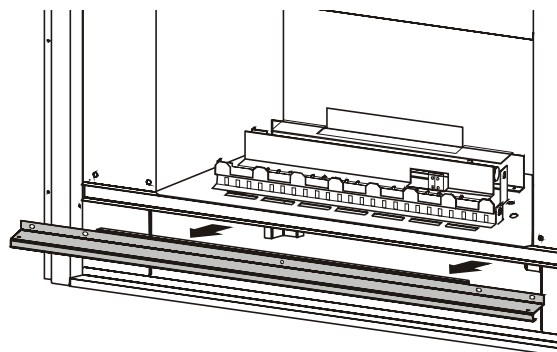

Figure 13. Removing the bottom door rail.
- A Spill Switch is supplied with each unit. This must be wired in the Wall Switch - Gas Valve circuit. (See Figure 13 for Schematic Diagram.)
3. Remove the bottom door rail, as shown in Figure 13.